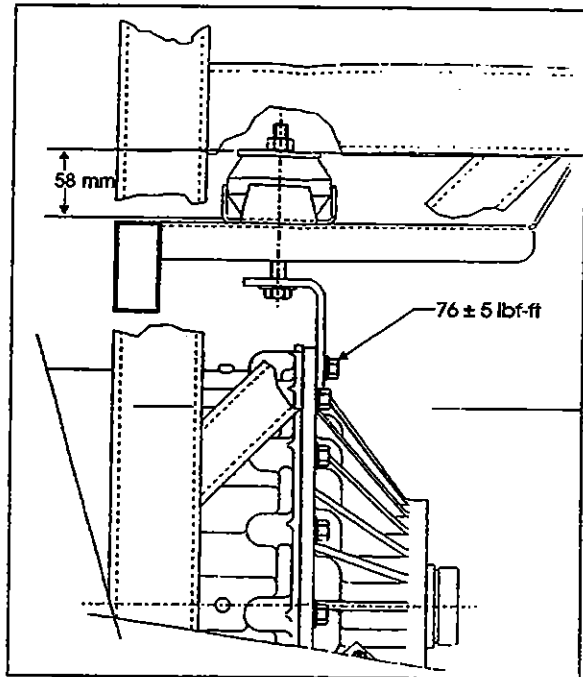

Figure 6: Nut Tolerance
10. If the vehicle is equipped with a retarder; install the bracket on the transmission and tighten the bolt to 71-81 lbf-ft (96-110 N·m). Install the transmission rubber mount between the rubber support and the frame with a bolt, nut and washer. Tighten the nut until the tolerance of  $58 \pm 2$  is met (Fig. 6).